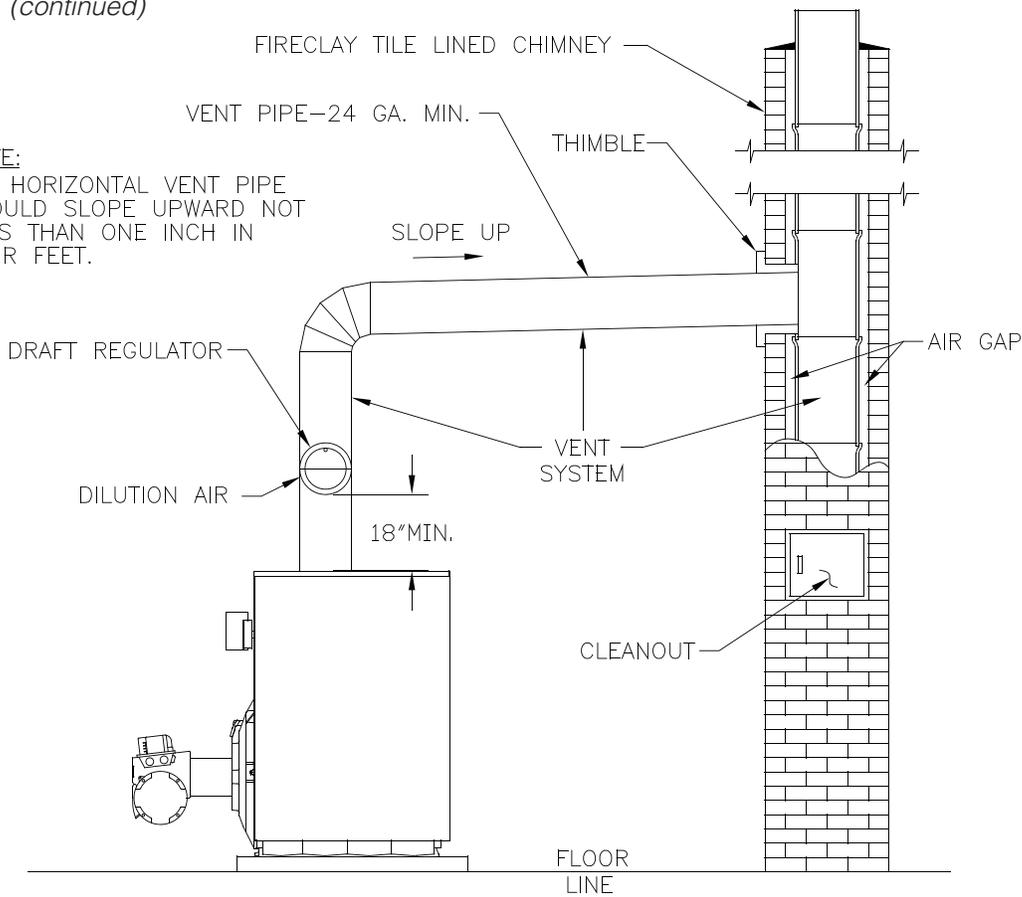

Figure 6-1: Recommended Vent Pipe Arrangement and Chimney Requirements
5. Draft Regulator – the draft regulator supplied with the boiler (or equivalent) must be used with this appliance. Refer to Figures 6-1 and 6-2.